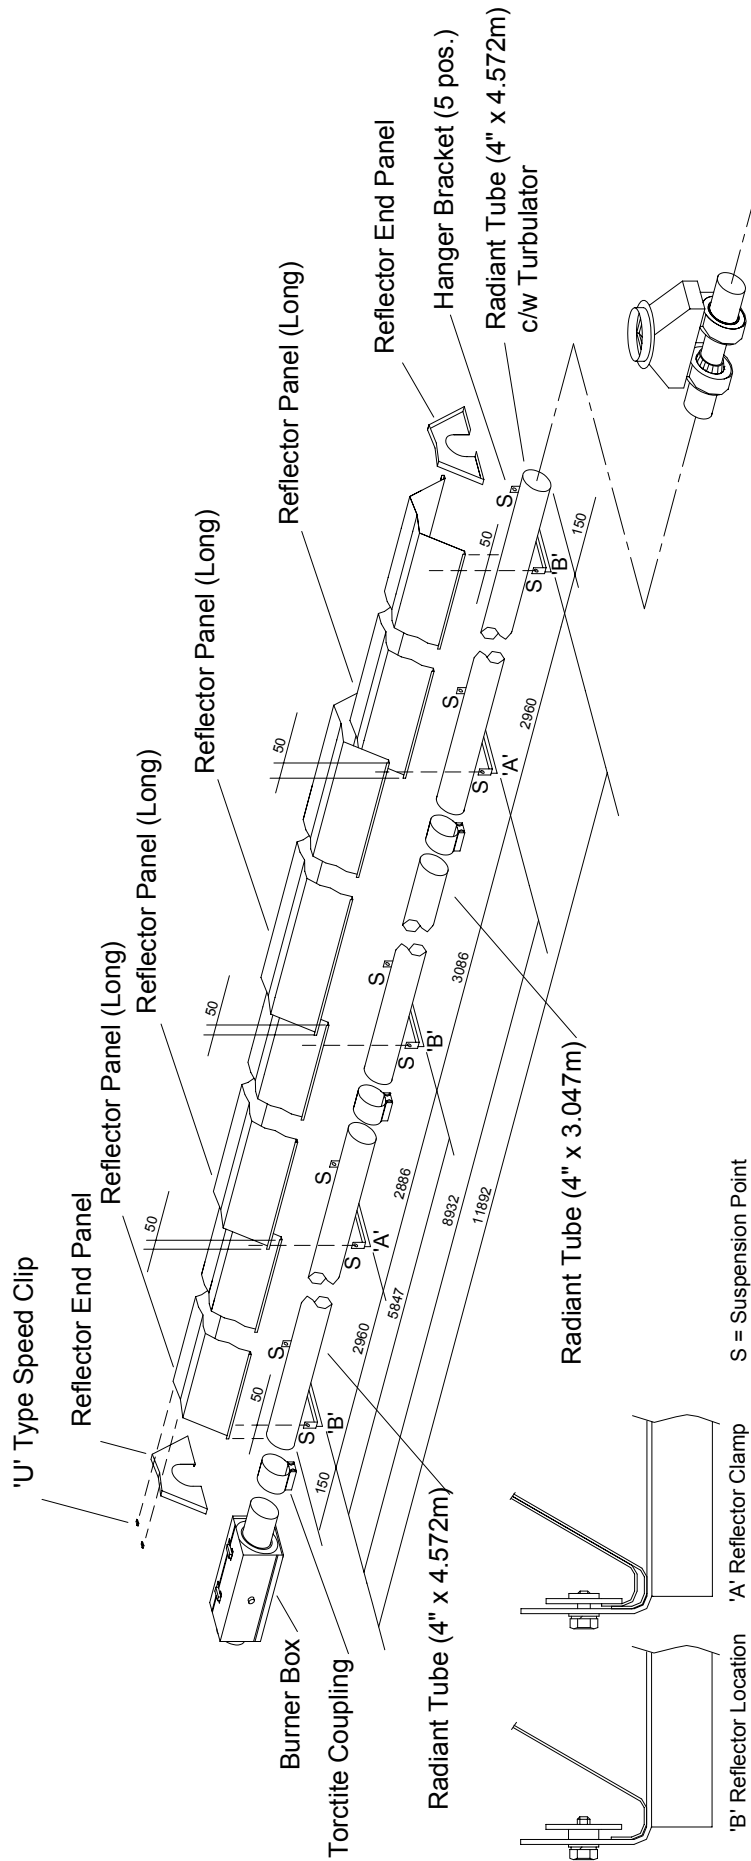

Fig. 16
- 4.4.2 Place one Radiant Tube (long), one Radiant Tube (short) and one Radiant Tube Assy (containing turbulator) on trestles providing 150mm minimum clearance above the floor, and assemble the five Hanger Brackets to the Radiant Tubes and Radiant Tube Assy using one 'U' bolt per bracket (from fastenings pack). Position the Hanger Brackets along the Radiant Tubes and Radiant Tube Assy as shown in Fig. 16. Ensure that the welded seams of the tubes are in contact with the Hanger Brackets. i.e. facing away from the reflector. Tighten the nuts sufficiently to retain the Hanger Brackets. Do not overtighten.
- 4.4.3 Place one Torctite Coupling over the relevant end of the long Radiant Tube (see Fig. 16) ensuring that it engages fully, up to the stop. Assemble the Control Box to the Radiant Tube ensuring that it engages fully into the Torctite Coupling (up to the stop) and is positioned vertically with the door latch uppermost (Fig. 5). Tighten the screws of the Torctite Coupling to secure the Control Box to the Radiant Tube, taking care to support the control box in line with axis of the tube.
- 4.4.4 The three sections should now be raised and suspended from previously fixed chains or drop rods as detailed in Section 3.1, at suspension points indicated in Fig. 16 & 18. Rope or webbing slings should be used when lifting from above. If using a forklift to position the appliance sections, ensure that they are balanced on the forks prior to lifting.
- 4.4.5 Place a Torctite Coupling over the open end of the Radiant Tube carrying the Control Box ensuring that it engages fully, (up to the stop). Assemble the centre (short) Radiant Tube into the Torctite Coupling, ensuring that it engages fully (up to the stop) and with the Hanger Brackets aligned with those of the first Radiant Tube section (see Fig. 16). Tighten the screws of the Torctite Coupling to secure the two sections of Radiant Tube to one another, taking care to maintain the tubes in a straight line.
- 4.4.6 Place a Torctite Coupling over the open end of the Radiant Tube (and turbulator) Assembly furthest from the turbulator, ensuring that it engages fully, (up to the stop). Assemble the previously assembled section of Radiant Tubes into the Torctite Coupling ensuring that it engages fully (up to the stop) and with all the appliance Hanger Brackets correctly aligned with each other (see Fig. 16). Tighten the screws of the Torctite Coupling to secure the two sections of Radiant Tube to one another, taking care to maintain the tubes in a straight line.
- 4.4.7 Place one Reflector Panel onto the two Hanger Brackets adjacent to the Control Box and a second Reflector Panel onto the two Hanger Brackets adjacent to the Fan Assembly. Position the Reflector Panels such that their outer edges overhang the Hanger Brackets by 50mm (see Fig. 16). Place the remaining two Reflector Panels over the two outer Reflector Panels, ensuring that the centre overlap is as shown in Fig. 16, thus providing a 50mm overlap at each joint. Clamp the first and second Reflector Panels, where they overlap, to the second Hanger Bracket (from Control Box end) using two retainers and M6 setscrews and washers (fastenings pack). Clamp also, the third and fourth Reflector Panels where they overlap, to the fourth Hanger Bracket (from Control Box end) end using two retainers and M6 setscrews and washers (fastenings pack). Secure the two Reflector Panels that overlap adjacent to the centre Hanger Bracket, to each other using two 'U' type speed clips (from fastening pack) as shown in Fig. 16. Screw the remaining (6) retainers to each of the other Hanger Brackets to provide **location** for the Reflector Panels.
- 4.4.8 Position one Reflector End Panel over the Radiant Tube and into one end of the Reflector Panels, with the End Panel flange flush with the end of the Reflector Panel. Secure the Reflector End Panel to the Reflector Panel by use of six 'U' type speed clips provided (fastenings pack); as shown in Fig. 16. Repeat the procedure to attach the second Reflector End Panel to the opposite end of the Reflector.